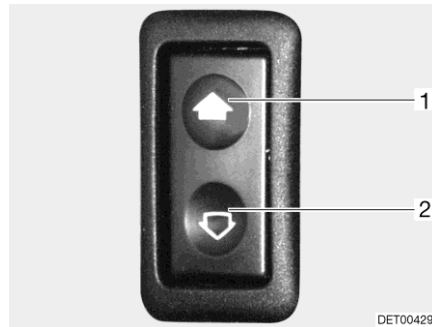

Fig. 24 Switch for electrical window winder
- Opening:* ■ Press the lower part (Fig. 24,2) of the switch.
- Closing:* ■ Press the upper part (Fig. 24,1) of the switch.